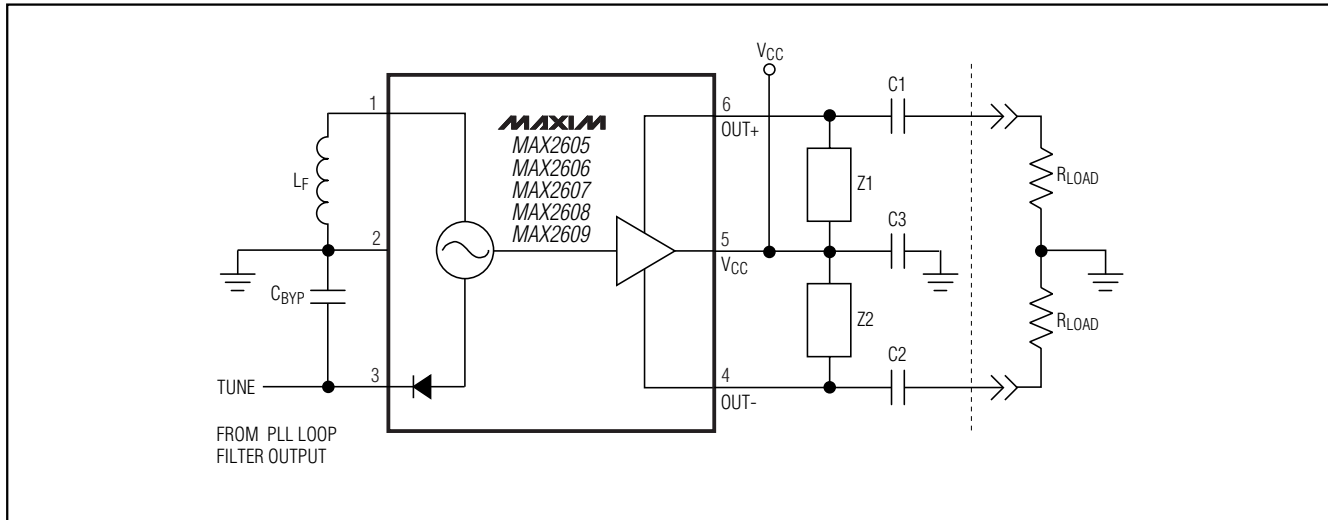

Figure 6. Typical Operating Circuit
**Note 4:** Application range of the part is achieved using external inductance as specified in Figures 1-5 and shown in Figure 6. The internal varactors support center frequencies of 45MHz to 650MHz. The center frequency is defined by the value of the external inductor element,  $L_F$ . The application frequency limits are guaranteed by design and characterization.
**Note 8:** The phase-noise specifications listed apply to the typical operating circuit shown in Figure 6. Apply over the entire operating frequency range of the MAX2605-MAX2609.
In Figure 6, Z1 and Z2 are 1k $\Omega$  pull-up resistors that are connected from OUT+ and OUT- to VCC, respectively. These resistors provide DC bias for the output amplifier and are the maximum value permitted with compliance to the output voltage swing limits. In addition, the 1k $\Omega$  resistors maximize the swing at the load. DC-blocking capacitors are connected from OUT- and OUT+ to the load. If the load driven is primarily resistive and the VCO operating frequency is below the -3dB bandwidth of the output network, then the peak-to-peak differential signal amplitude is approximately:
To optimize the output voltage swing or the output power, use a reactive power match. The matching network is a simple shunt-inductor series-capacitor circuit, as shown in Figure 6. The inductors are connected